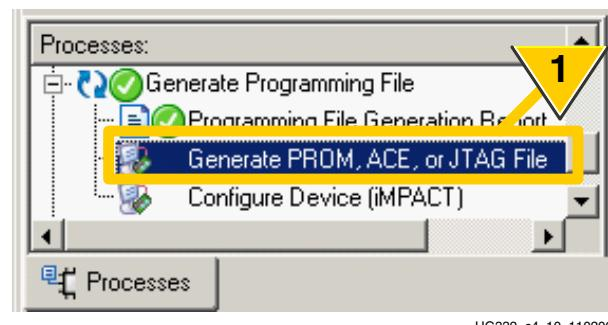

Figure 5-7: Double-click Generate PROM, ACE or JTAG File
1. From within the ISE Project Navigator, double-click **Generate PROM, ACE, or JTAG File** from within the Process pane, as shown in Figure 5-7.